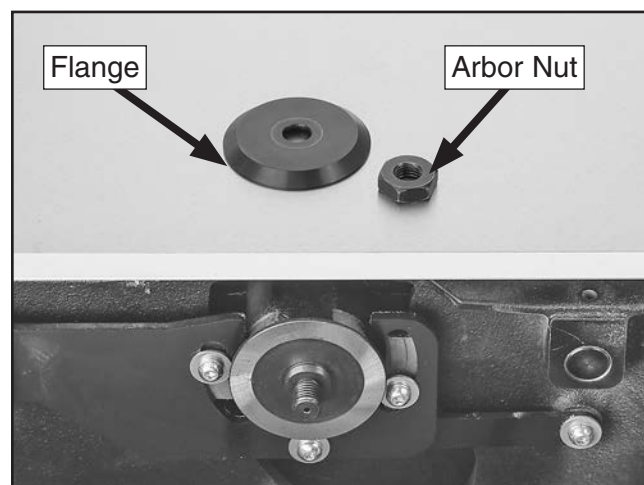

Figure 32. Flange and arbor nut removed from arbor.
24. Continue unthreading arbor nut clockwise until you can remove blade flange (see **Figure 32**).